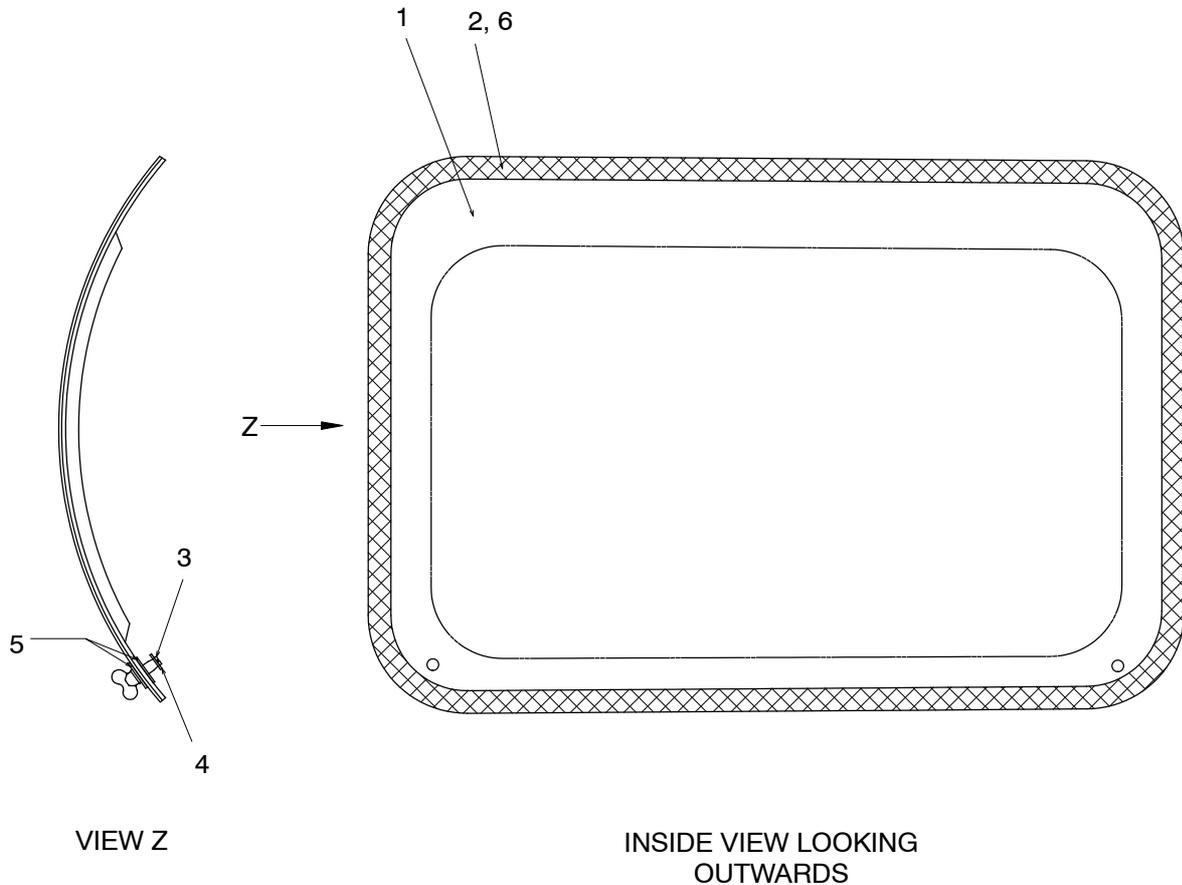

Figure 11 Access Door
- Access Door (Refer to Figures 11 and 12)
Legend (for Figure 11)